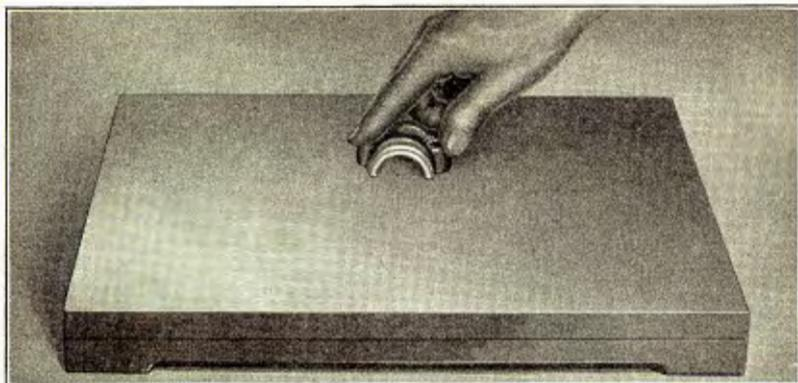

Fig. 233
- 385** When the cap has been dressed down sufficiently, check the cap on a surface plate to make sure that the face of the cap has been filed evenly. (See Fig. 233.)